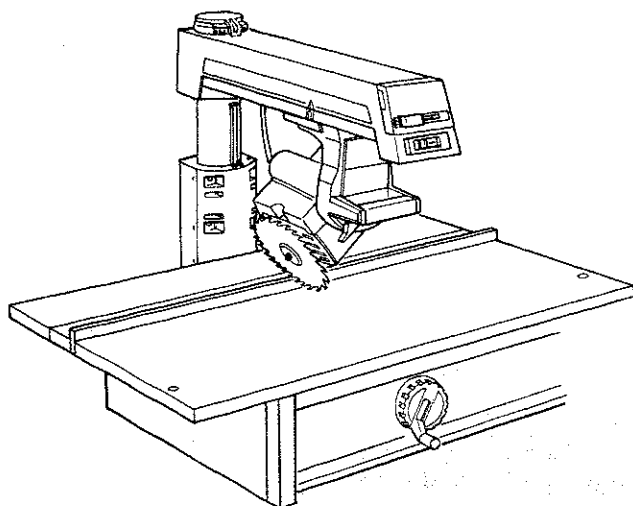

Fig. 59
15. Unlock the *bevel lock* and move the *motor* to the 45° bevel position. (Figure 59)